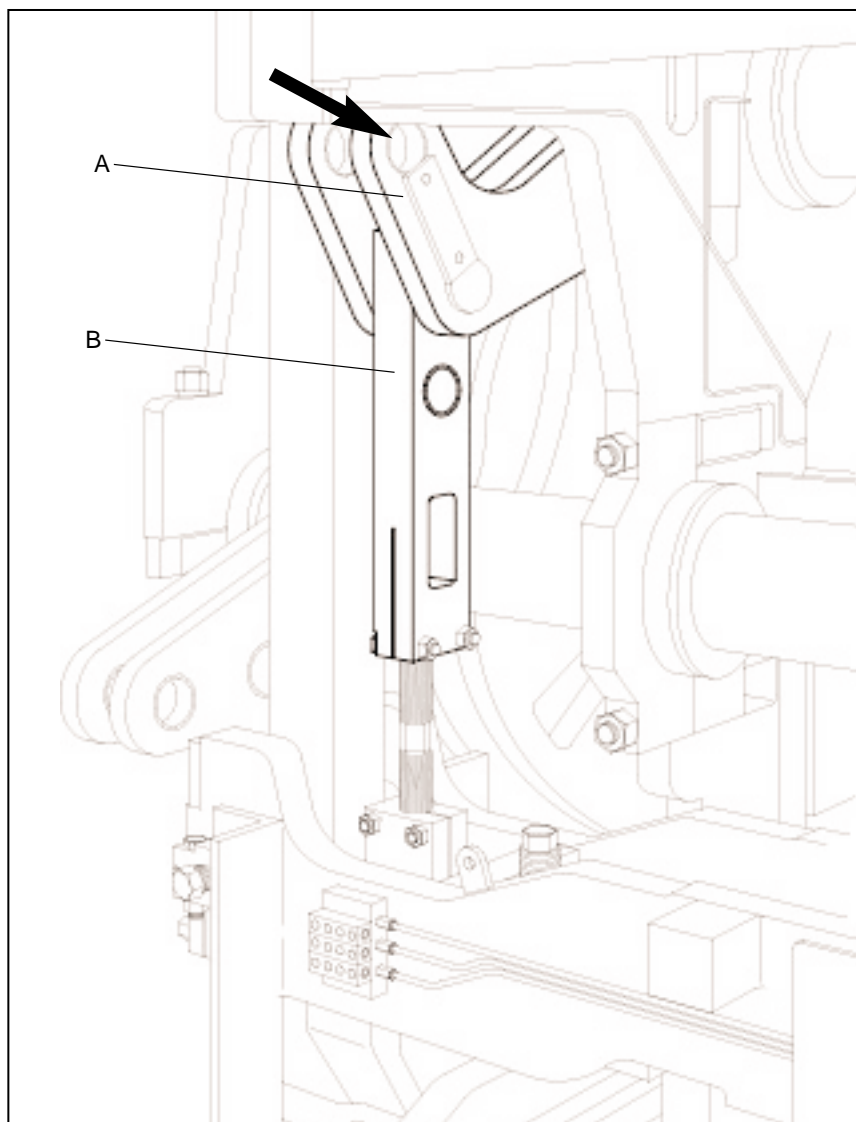

Figure 18.2 STRIPPER HEAD SHAFT AND LINKS.
b. Stripper head shaft (A) - position pins in inside holes (short stroke) (see figure 18.2).
c. Stripper head links (B) - position pins in top holes (see figure 18.2). Adjust links to obtain approximately **184mm [7.25"]** between link ends.